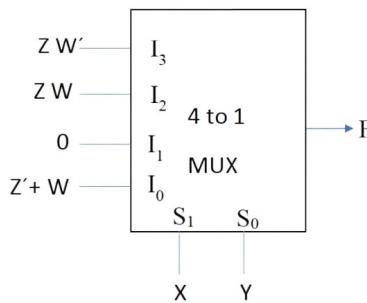

Fig. 4.20: Multiplexer
- (A)  $P - K, Q - L, R - N, S - M$  (GATE BM 2020)
- (B)  $P - L, Q - K, R - N, S - M$
- (C)  $P - L, Q - N, R - M, S - K$
- (D)  $P - M, Q - K, R - L, S - N$
39. A  $4 \times 1$  multiplexer with two selector lines is used to realize a Boolean function  $F$  having four Boolean variables  $X, Y, Z$  and  $W$  as shown below in Fig. 4.20.  $S_0$  and  $S_1$  denote the least significant bit (LSB) and most significant bit (MSB) of the selector lines of the multiplexer respectively.  $I_0, I_1, I_2, I_3$  are the input lines of the multiplexer. (GATE IN 2021)